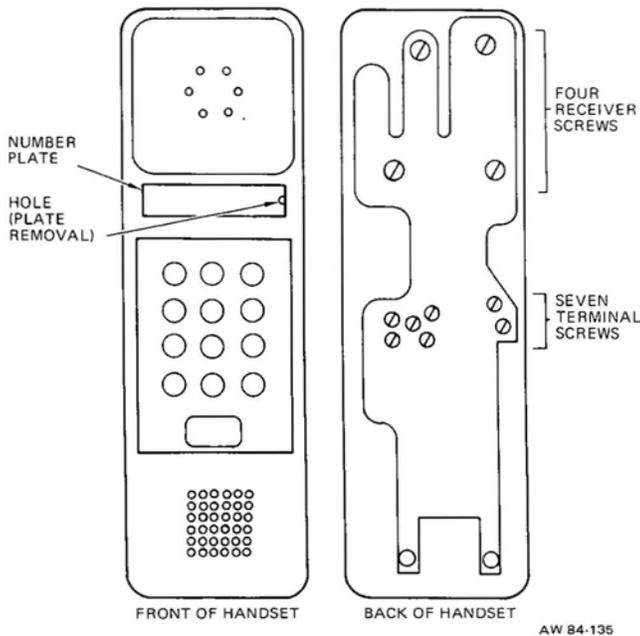

Figure 4: Trendline Handset
3.01 To remove the dial from the telephone handset, proceed as follows. (Refer to Figure 4 throughout the procedure.)
- (d) Install the seven terminal screws. (See Figure 4.)